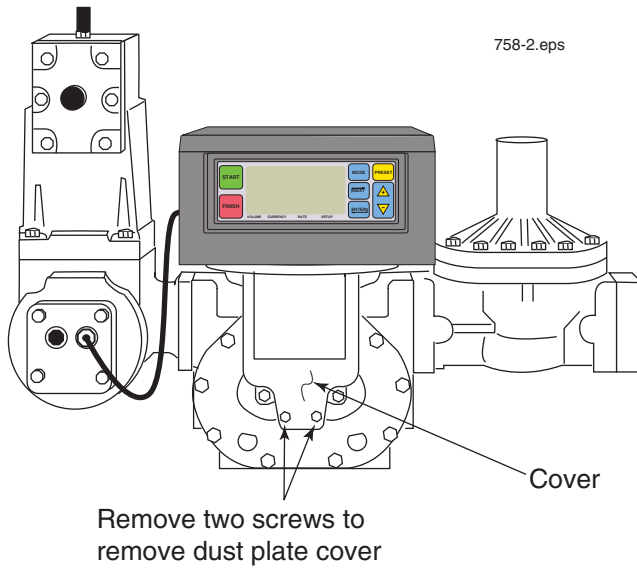
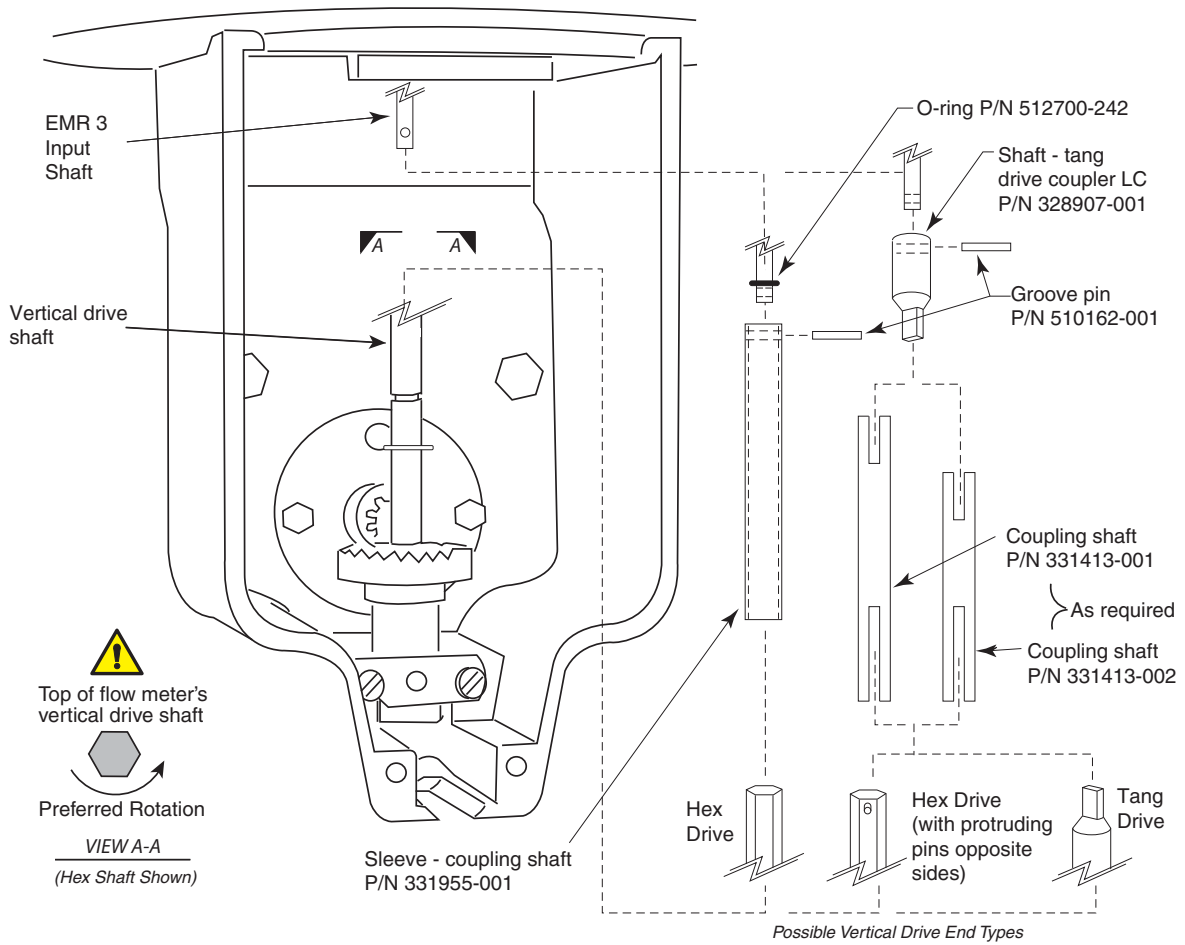

Figure 2. Remove Adjuster Dust Cover Plate
Figure 3. Installing Meter Encoder Adapter Coupling
2. Run the flow meter and verify that the flow meter's vertical drive shaft (Figure 3) is rotating in a counter clockwise direction. If not, make the necessary mechanical adjustment(s) to ensure the vertical drive shaft rotates counter-clockwise.
4. Remove adjuster dust cover plate from front of meter (Figure 2). Remove existing adjuster and coupling shaft. Notice the type of vertical drive shaft in the meter (Figure 3).